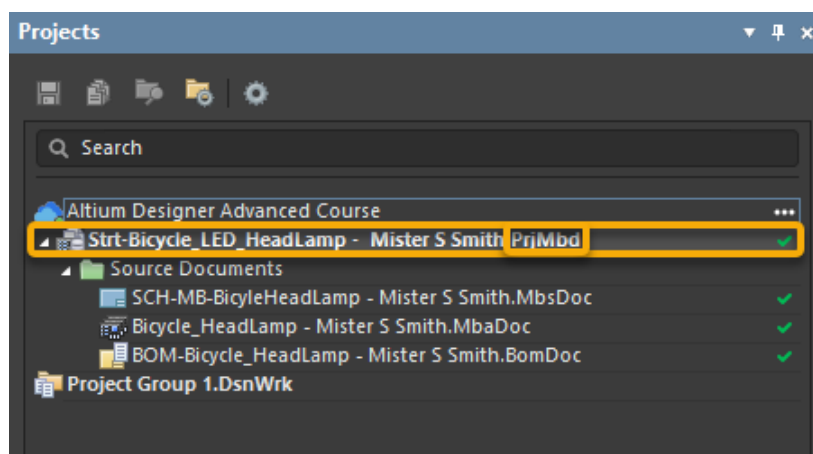

Figure 4. Project Panel with remaining PrjMbd project
12. Your project tree should look like Figure 4.